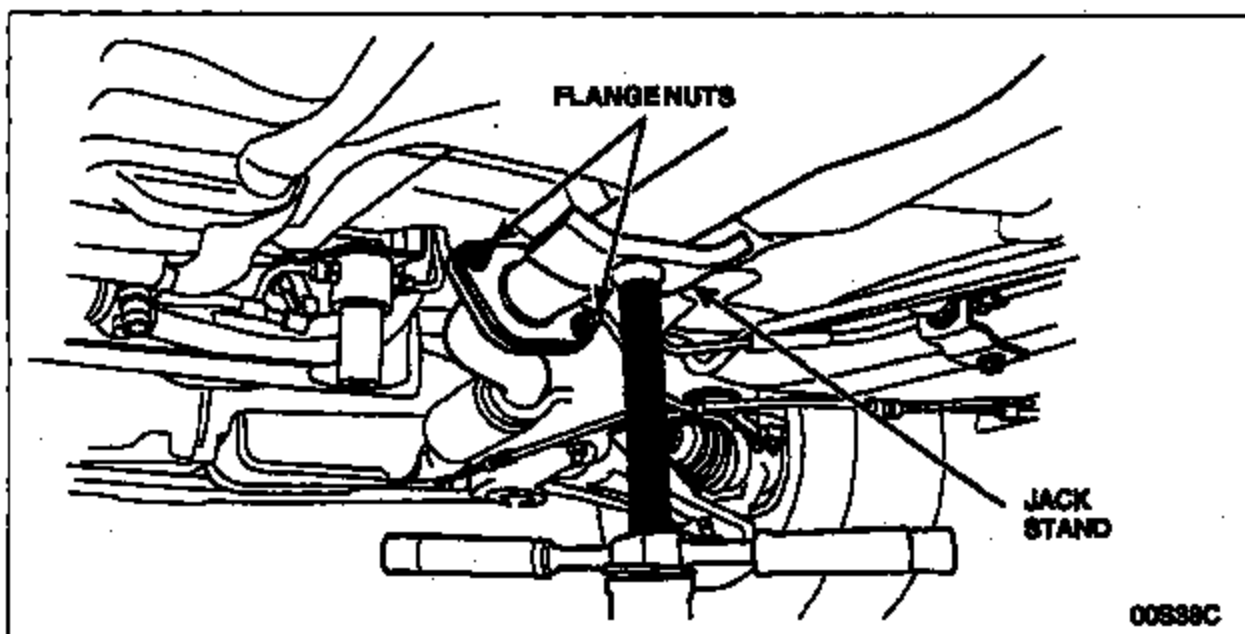

FIGURE 3
6. Position a tall jack stand at the forward end of the muffler and pipe assembly. Remove the muffler inlet pipe flange nuts, then disengage the hangers and remove the muffler and pipe assembly from the vehicle. See Figure 3.